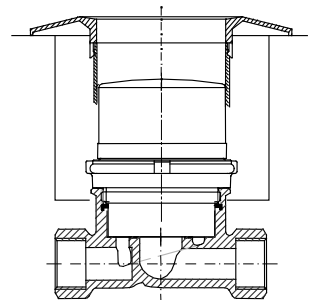

Fig. 3
- 1.13. Push the rosette onto the register cap as far as it will go (see Fig. 3). For wet room installations with an extension connection, a rosette disk can also be inserted and this must be ordered separately.